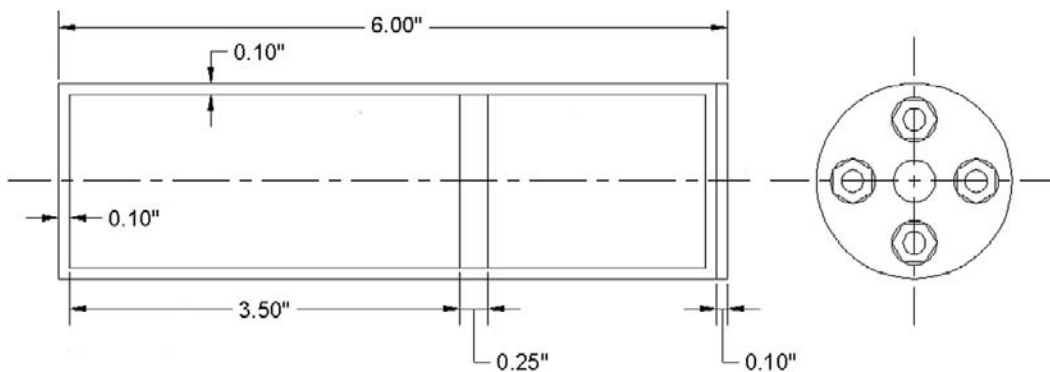

FIGURE 8.10
- Step 8.** Trim or fillet the main vertical guideline and continue offsetting based on the given geometry to “sketch out” the basic outline of the shape, as seen in Figure 8.10. Do not yet add dimensions; they are for construction only.